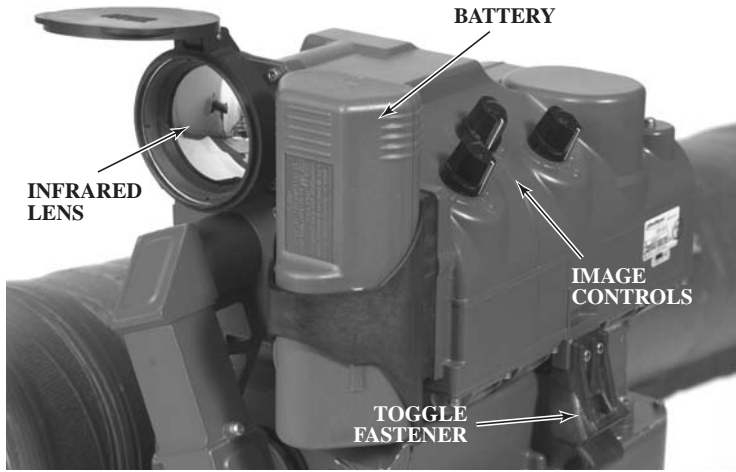

Figure 3-1: The Mirabel Thermal Imager
10. **Introduction.** *Explain.* The Mirabel Thermal Imager is a passive electro-optical instrument that uses thermal imaging technology. It is mounted on top of the firing post to allow the gunner to engage targets in conditions of darkness and reduced visibility (see Figure 3-1).